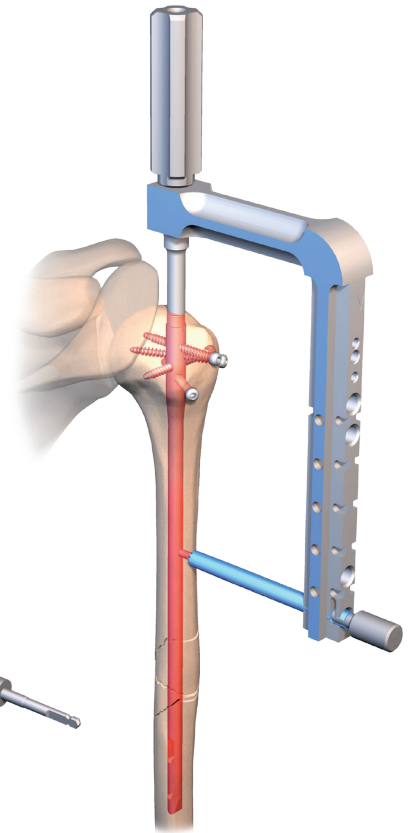
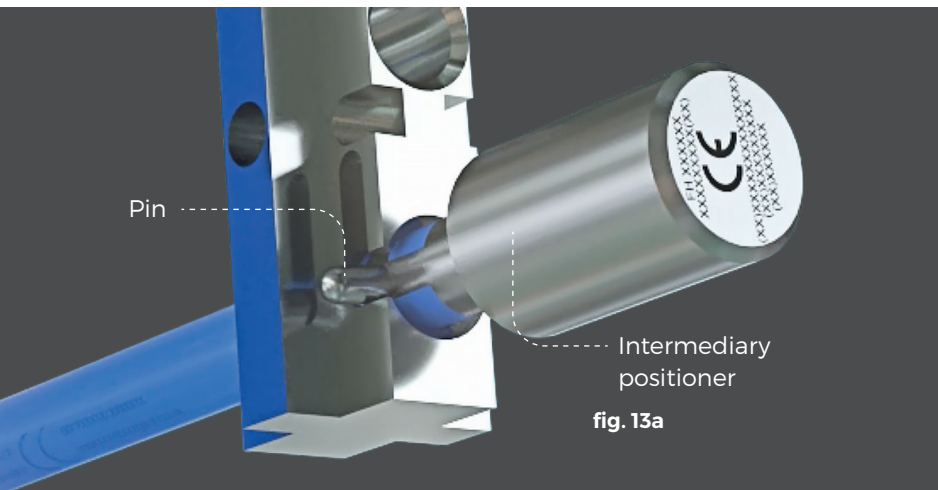

fig. 13
fig. 13a
· Insert the intermediate positioner (**ref. 253 675**) into the barrel (**fig. 13**), then rotate to allow the pin to be inserted into the hoop (**fig. 13a, 13b and 13c**) ensuring that the positioner is locked.